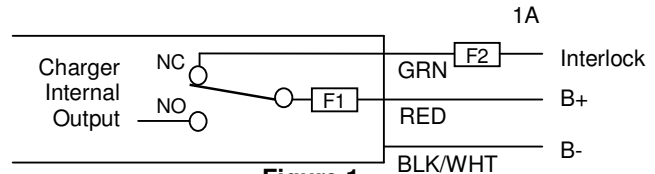

Figure 1
- The green wire outputs battery voltage when the charger is not plugged into AC to provide an interlock function – see Fig. 1. **If used, a user-supplied 1A fast-blow external fuse must be installed inline to prevent damage. Shorting or drawing more than 1A may damage charger and void the warranty.**